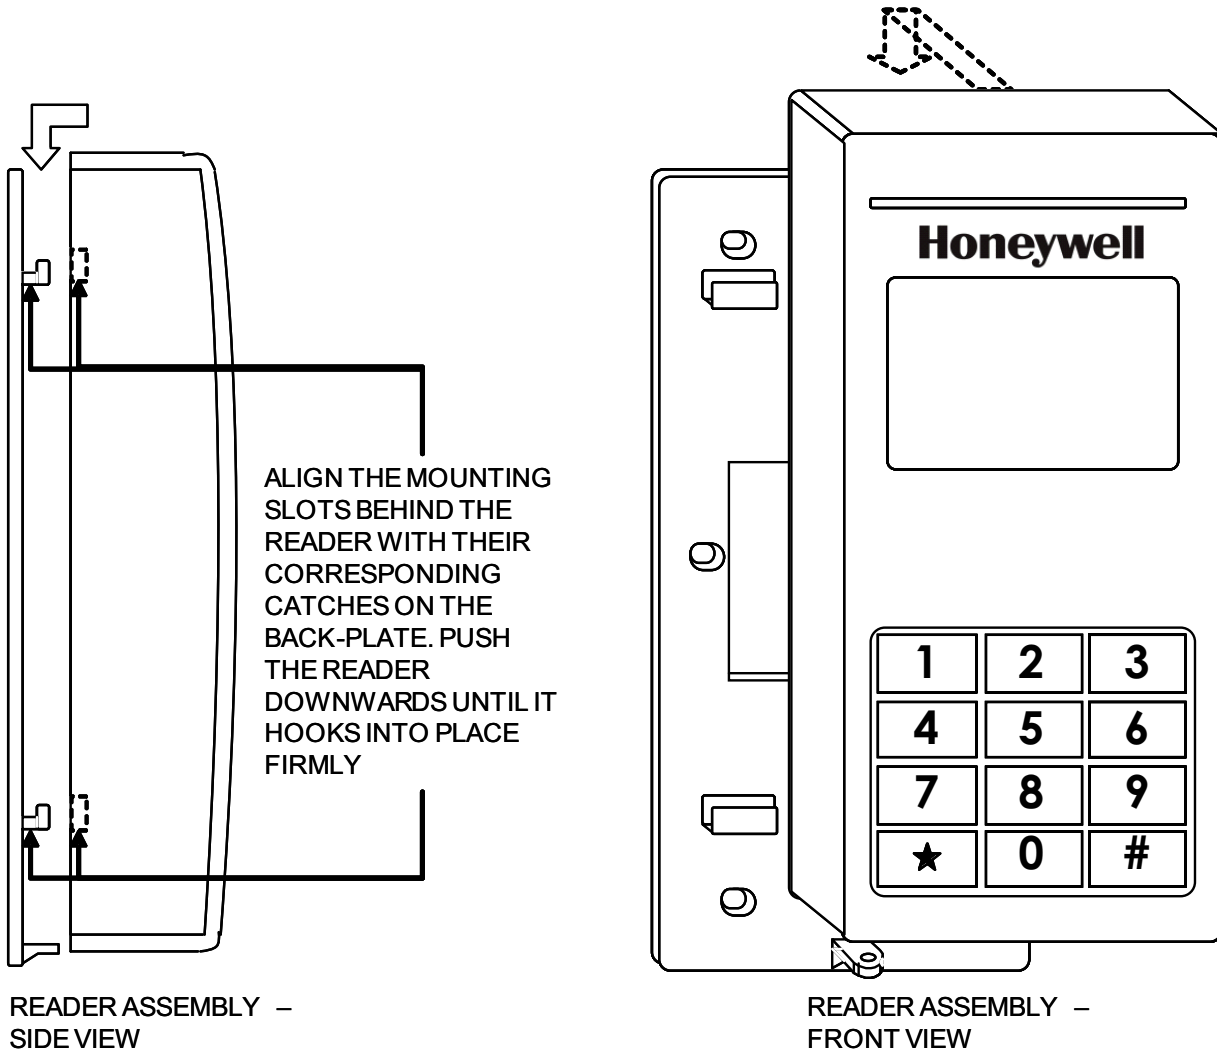

Fig. 9. Mounting IdentIPoint reader on the back-plate
5. Once all the connections and settings are done, hold the reader against the back-plate, aligning the mounting slots at the back of the reader with their corresponding catches on the back-plate and push it downwards until it hooks into place firmly. See Fig.8 and Fig.9.
4. Once all the connections and settings are done, hold the reader against the back-plate, aligning the mounting slots at the back of the reader with their corresponding catches on the back-plate and push it downwards until it hooks into place firmly. See Fig.8 and Fig.9.